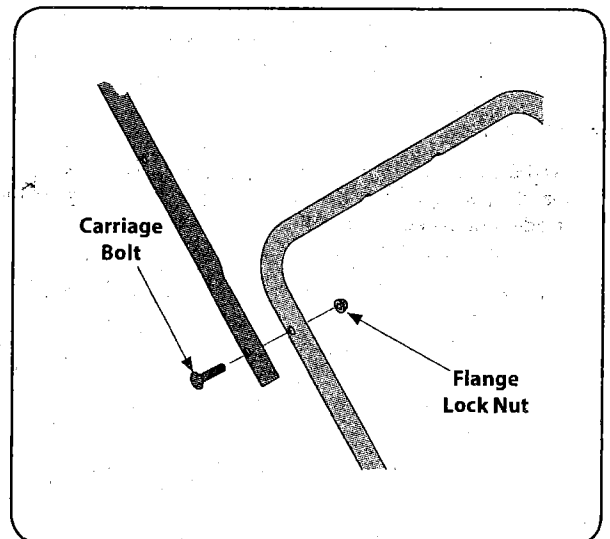

Figure 3-3
2. Secure the upper handle to the lower handle using the carriage bolts and lock nuts from Group 4 of the hardware pack. See Figure 3-3.